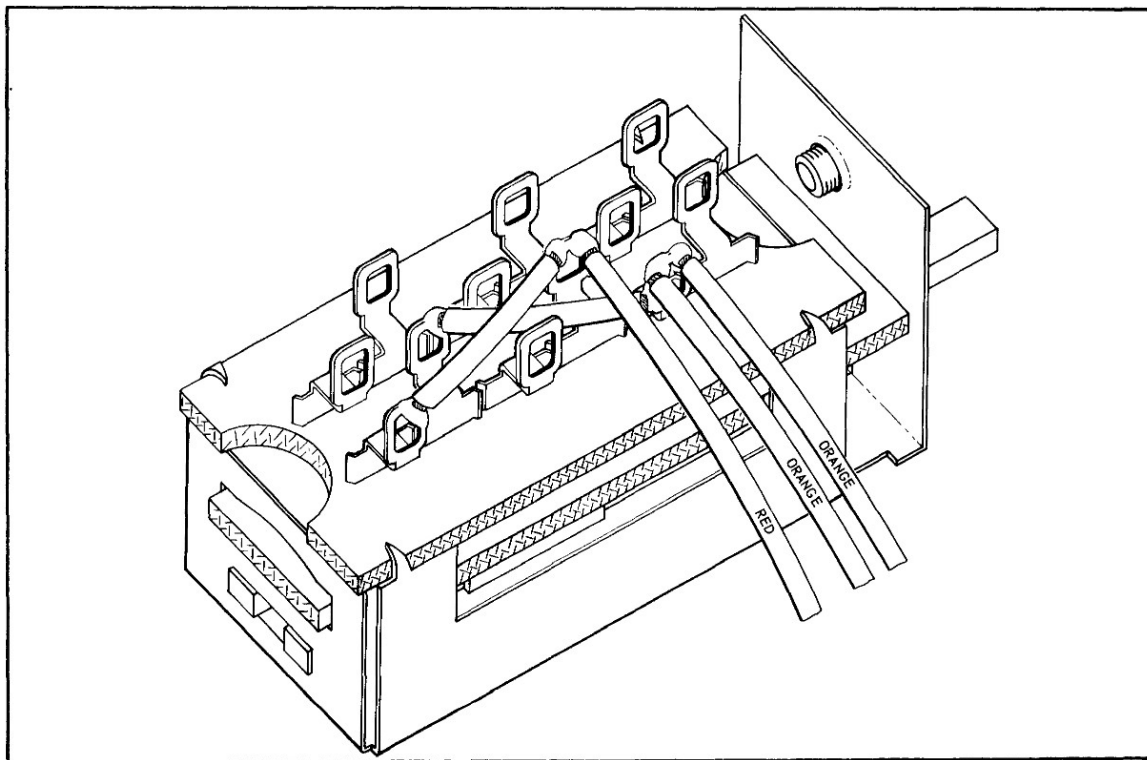

Figure 12-1. Replacement of AutoControl III Engage Switch
4. Make sure that all the wires on the switch are the same color as those shown in Figure 12-1. If not, identify any wires which are different. Remove all wires from the switch.